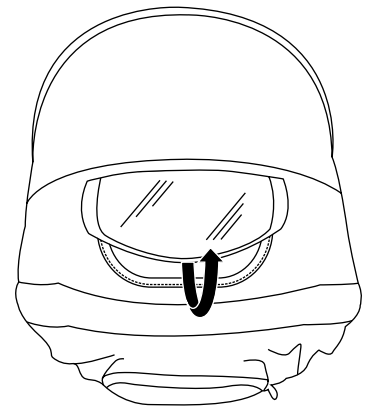

Fig. 7
11. To open, flip backwards to show peek-a-boo window. (Fig. 7)